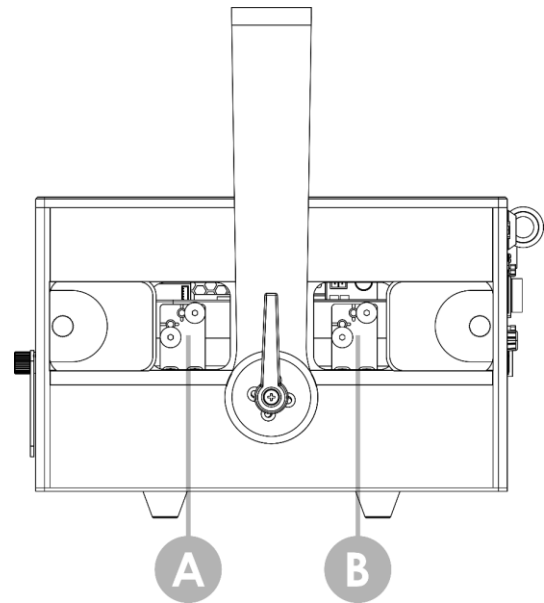

Fig. 18
- 04) Turn the **beam alignment screws (A)** and **(B)** to adjust the horizontal and vertical positions of the red and blue beams (see Fig. 18):
- **beam alignment screws (A)** – red color
- **beam alignment screws (B)** – blue color
- 05) After the beams are aligned, slide the 2 **cover plates (02)** to the middle of the device to close the access to the **beam alignment screws (A)** and **(B)**.
- 06) Push and turn the 2 **cover plate adjustment screws (03)** clockwise to tighten them. Make sure that you do not overtighten them.